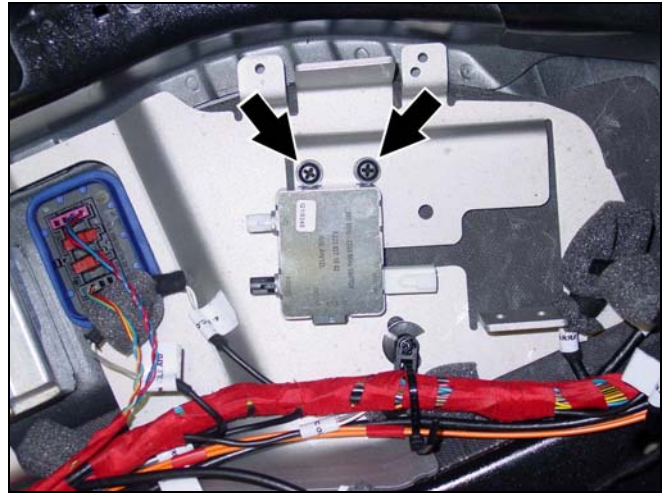

Figure 8
4. At the right side of the electronics compartment, mount the antenna switch to the floor with two self-tapping Phillips screws (Figure 8).